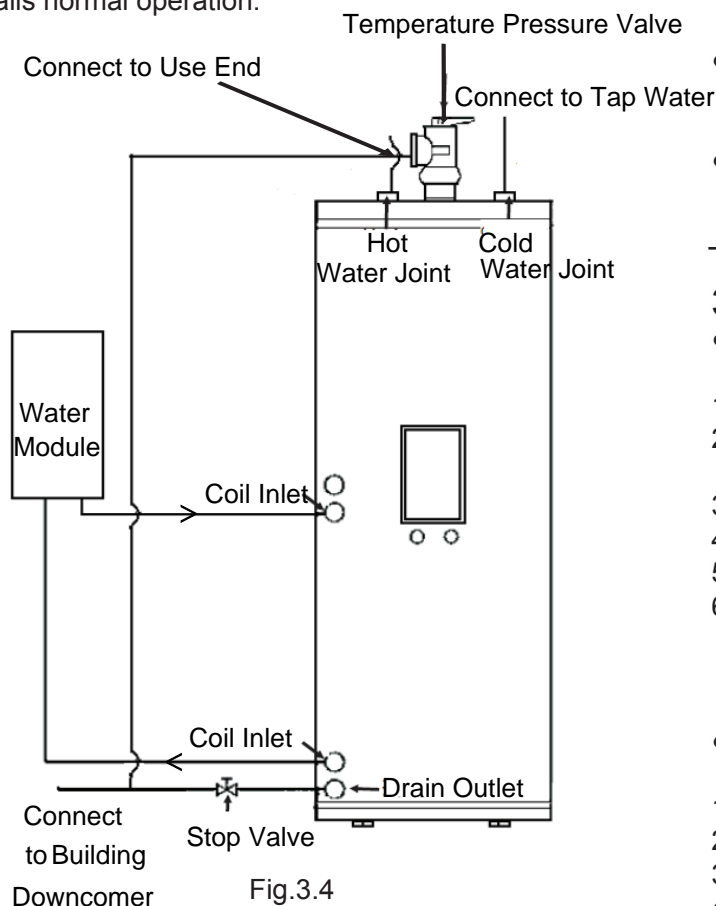

Fig.3.4
Connect pipeline of water tank as shown in Fig.3.4. The size of connecting pipe thread of water tank is seen below.
- Temperature pressure valve may spray hot water. To avoid hurting people, proper pipe joint must be connected to temperature pressure valve, and connect temperature pressure valve to stop valve of drain outlet through PPR pipe, seen in Fig.3.4.
6. Open temperature pressure valve to ensure water flows through effluent pipe (move ball type wrench to the left). The location of temperature pressure valve refers to Fig.3.4.